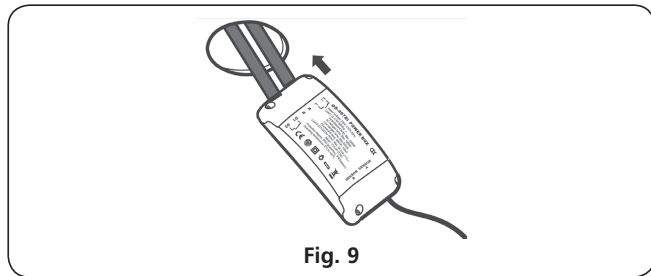

Fig. 9
3.3.3 Feed the wires/cables followed by the power unit through the 65mm dia. ceiling hole (see Fig. 9).